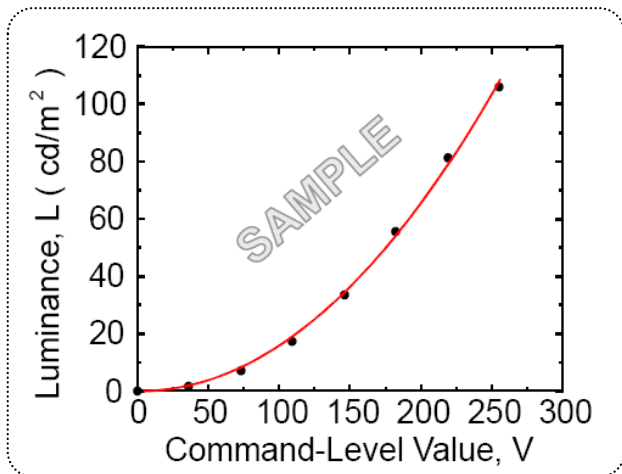
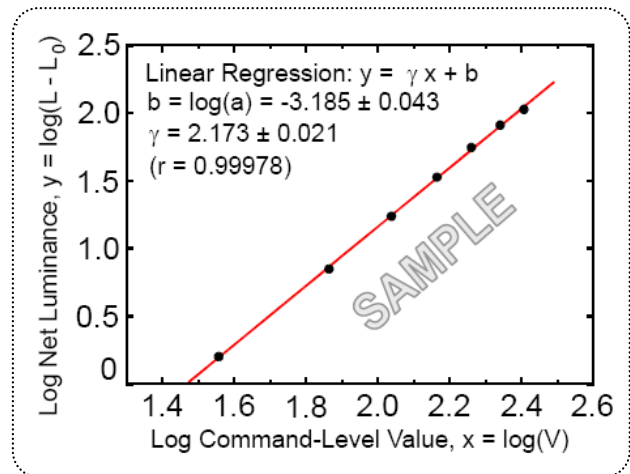

FIG.11 Sample Luminance vs. gray scale
FIG.12 Sample Log-log plot of luminance
7. GSR is the rate of gamma shift at up, down, left and right 60 degree viewing angle compare with center gamma. For more information see FIG.11 and FIG.12 **(By EZ Contrast)**
The GAMMA we calculate from the log-log representation (FIG.12)